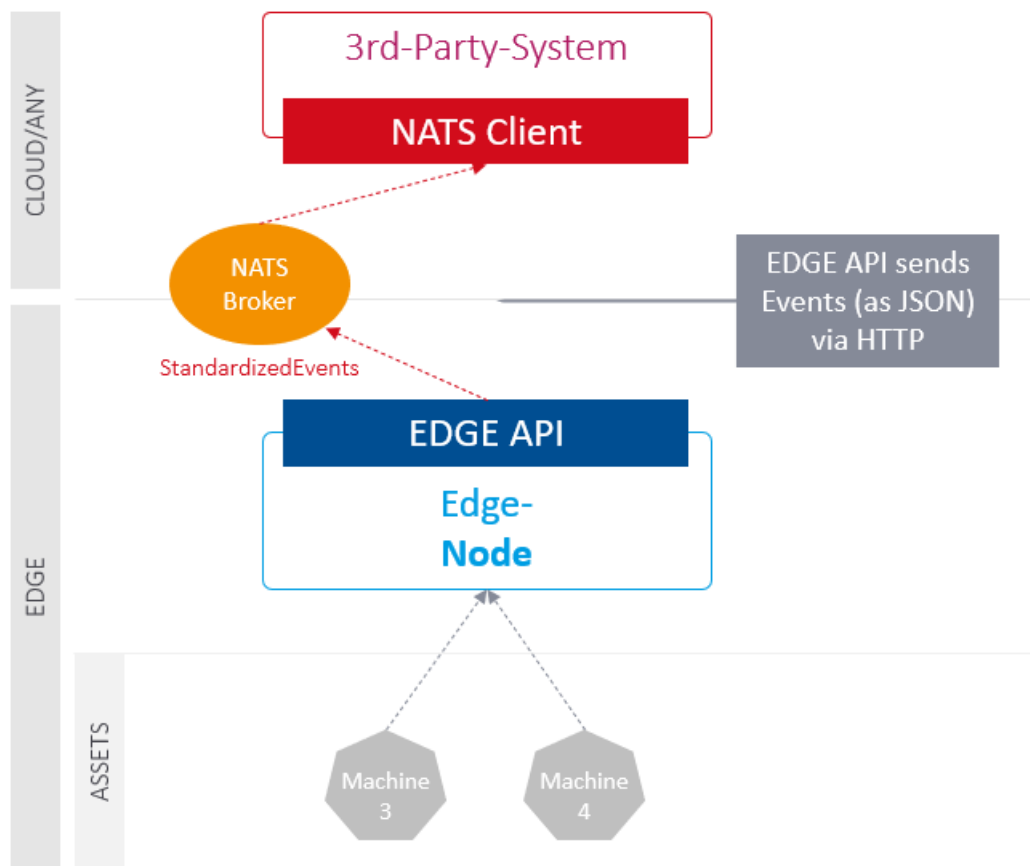

Fig. 33: Communication with superordinate systems via NATS.io
-  Script language can be switched between JSON, XML or text (see Fig. 33)